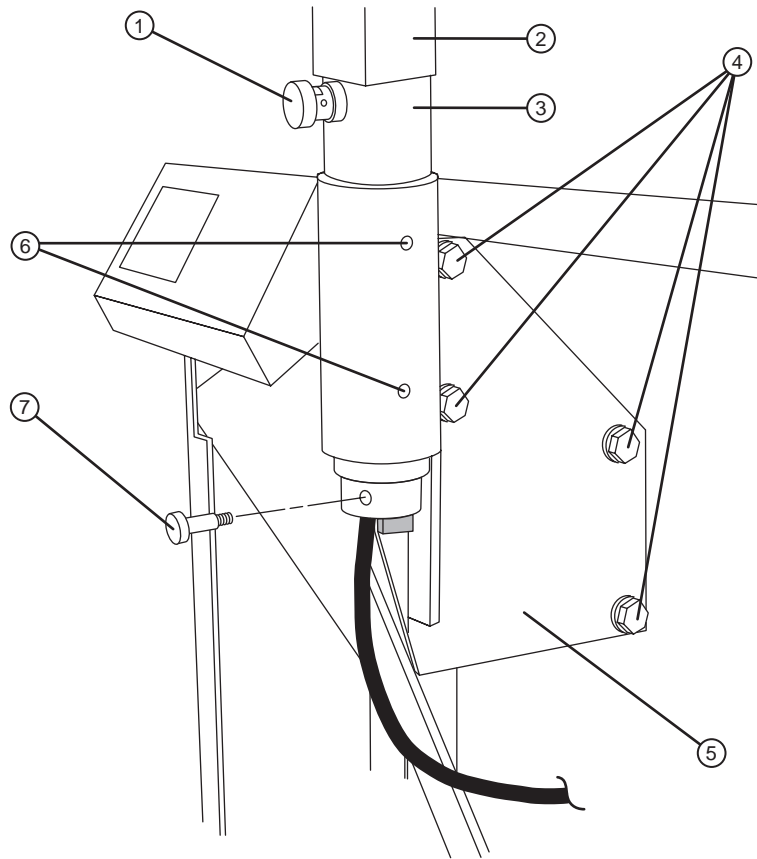

Figure 1-5 Mounting the boom into the adapter/mount.
- ③—Mount. ④—Mounting bracket.
- ⑤—Electrical cable with connector.
9. Install the stop pin through the base of the boom, which extends below the mount. Refer to Figure 1-5. Make sure that the head of the stop pin is on the same side as the control switches.